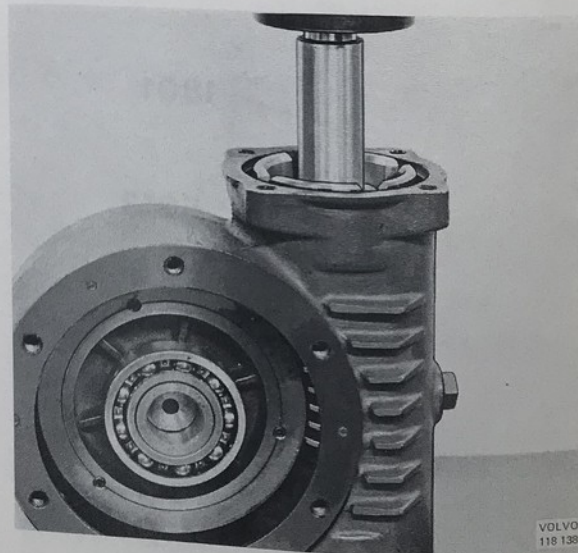

Fig. 92-74. Pressing in the worm
7. Press the worm into the housing with 2267. See Fig. 92-74.